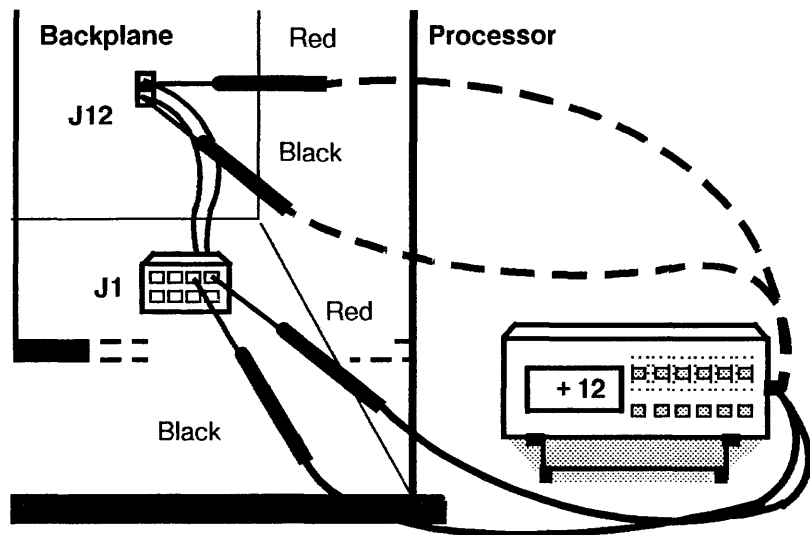

Figure 19. Fan Connector and Backplane
- Reach in through the C7 cavity and connect the meter leads to the backplane connector, J12. (Figure 19) Check for +11.83 to +12.57 VDC at the backplane. The correct voltage is read.